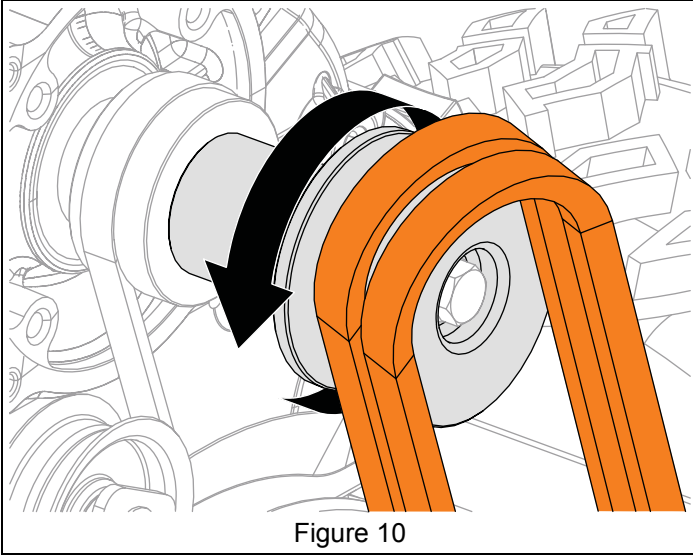

Figure 10
18. Remove hardware retaining belt finger to engine and remove belt finger. See Figure 10.